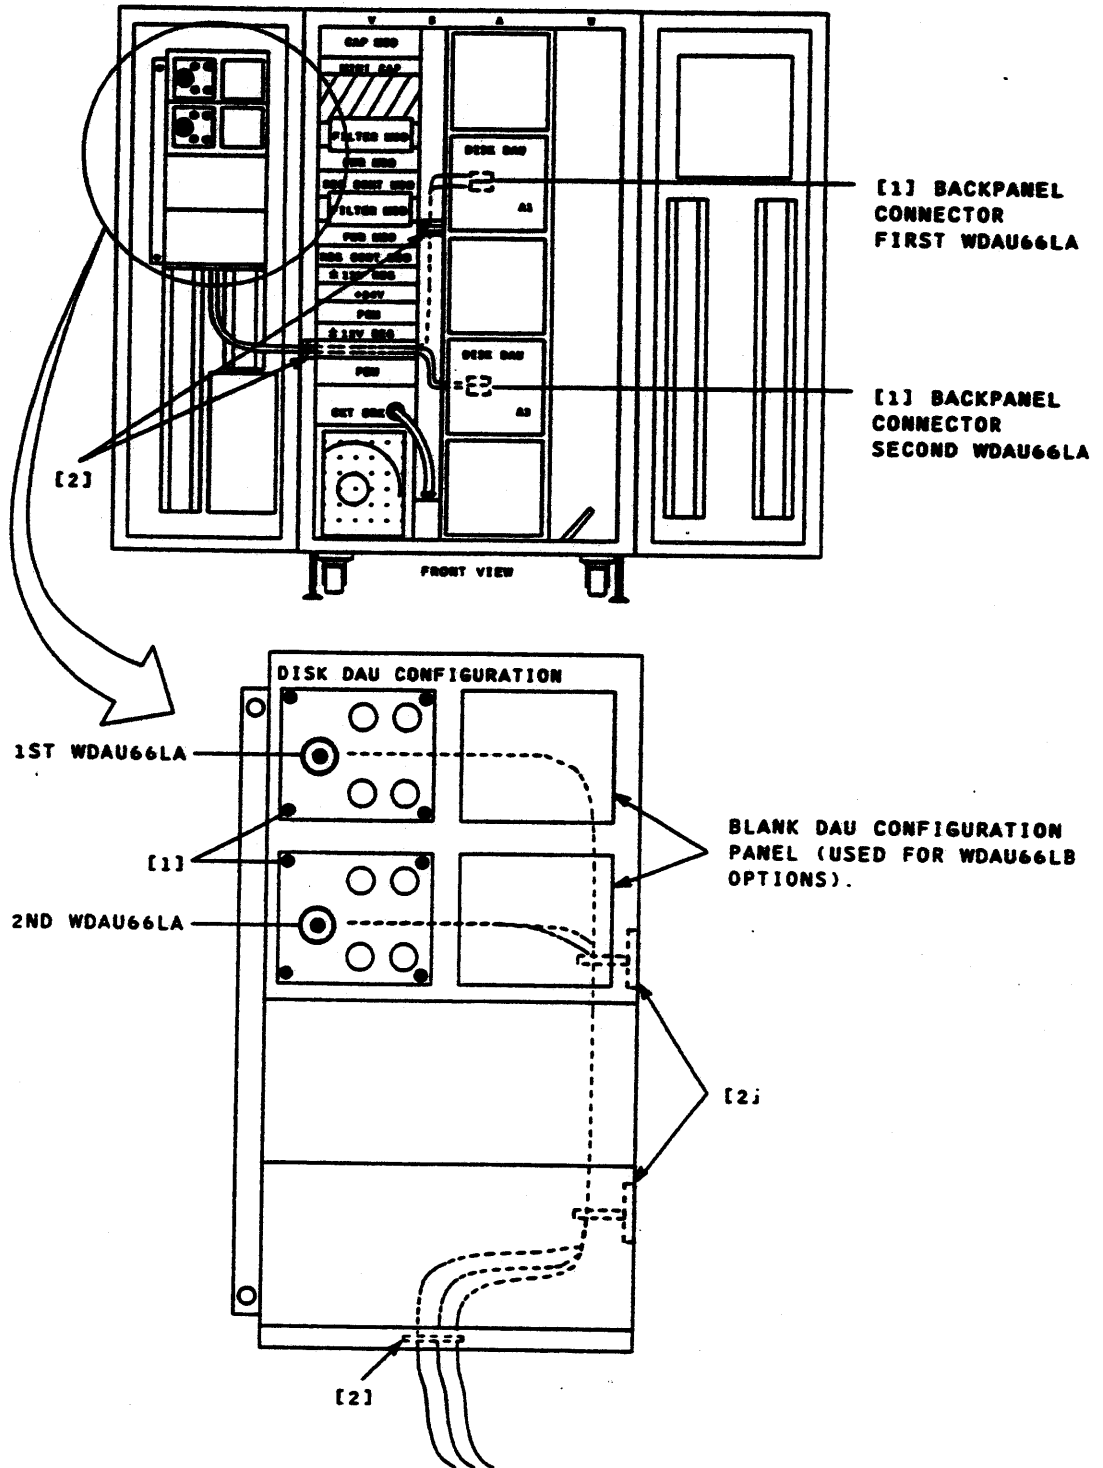

FIGURE 2.30-1. CONFIGURATION PANELS REMOVAL/INSTALLATION
5. Disconnect panel's wire harness connector plugs (Figure 2.30-1, [1]).
6. Remove cable ties which secure the configuration panel harness (Figure 2.30-1 [2]).